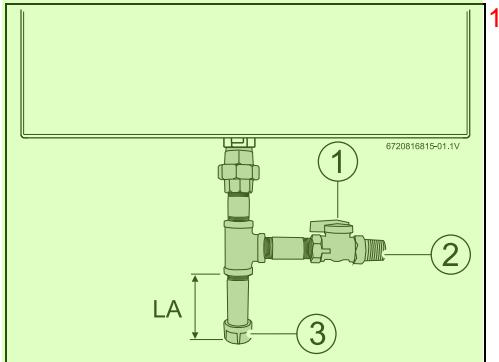

Fig. 25 Gas connection 2
- National Fuel Gas Code requires that a sediment trap (drip leg) be installed on gas appliances not so equipped. The drip leg must be accessible and not subject to freezing conditions. Install in accordance with the recommendations of the serving gas supplier, see fig. 25.